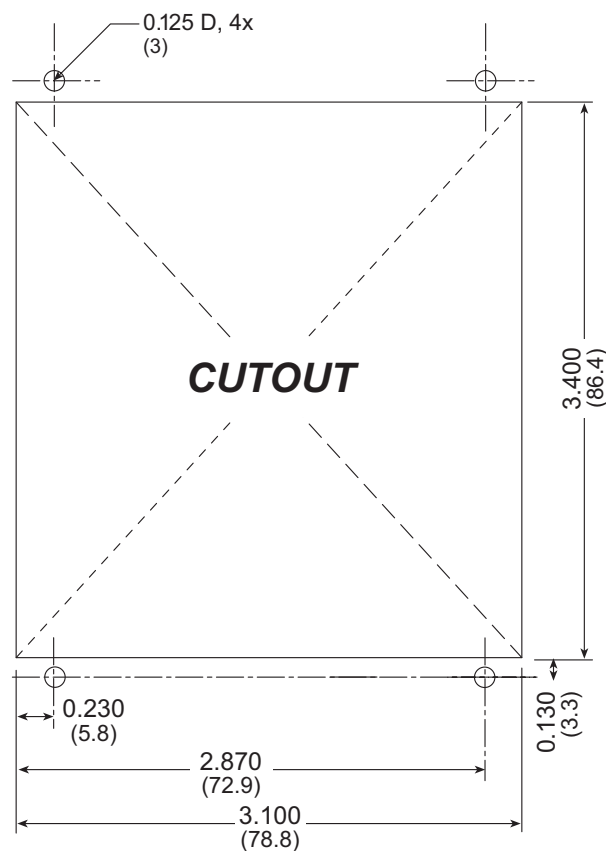

Figure D-8. Recommended Cutout Dimensions
1. Cut mounting holes in the mounting panel in accordance with the recommended dimensions in Figure D-8, then use the bezel faceplate to mount the LCD/keypad module onto the panel.